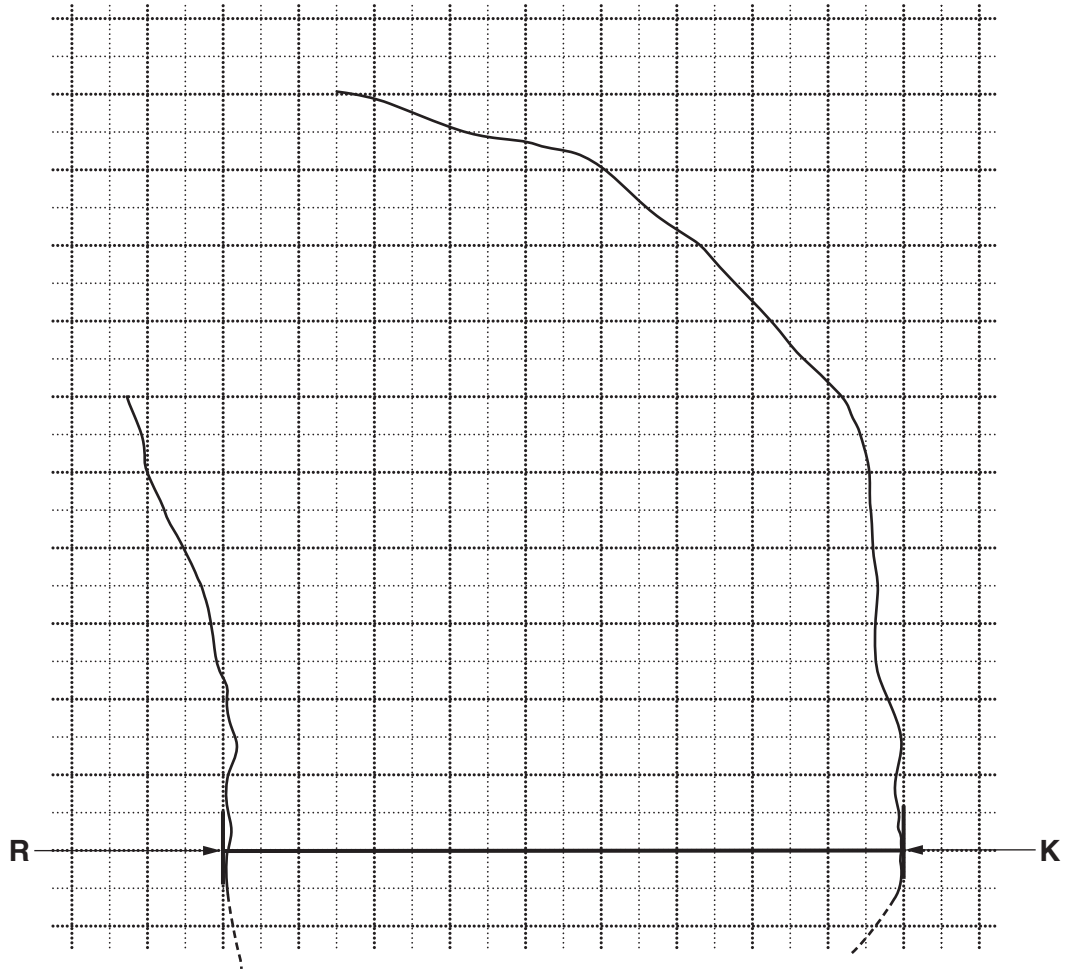

Fig. 2.2
The length (from **K** to **R**) of the vascular bundle in eyepiece graticule divisions was used to make a scale drawing of the outline of the vascular bundle as shown in Fig. 2.2.
- (iii) Using Fig. 2.2, count the total number of 1 cm by 1 cm squares occupied by the vascular bundle and count the total number of 1 cm by 1 cm squares occupied by the xylem tissue.
You will lose marks if you do not show all the steps in finding the ratio, including indicating counted squares on Fig. 2.2.